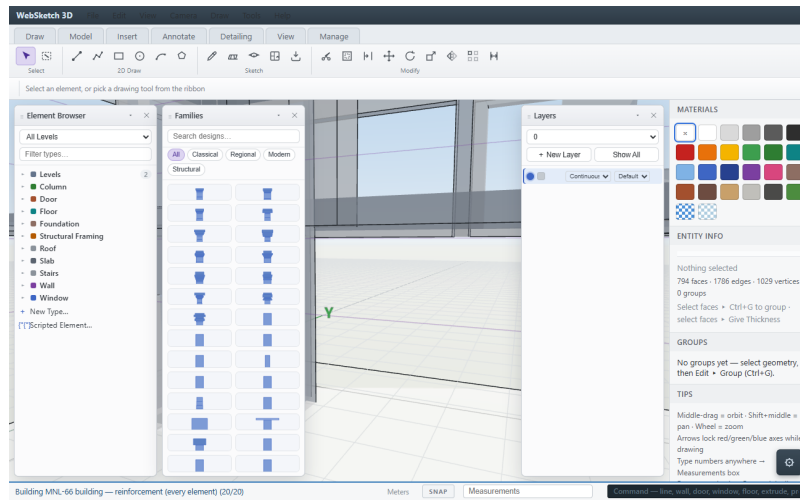

Figure 2-2 - BM-202: bars pass the column face and hook at the far side of the column ties.
- **Beam - column:** bars pass the face, hook at the far side of the column ties (Fig. 2-2).